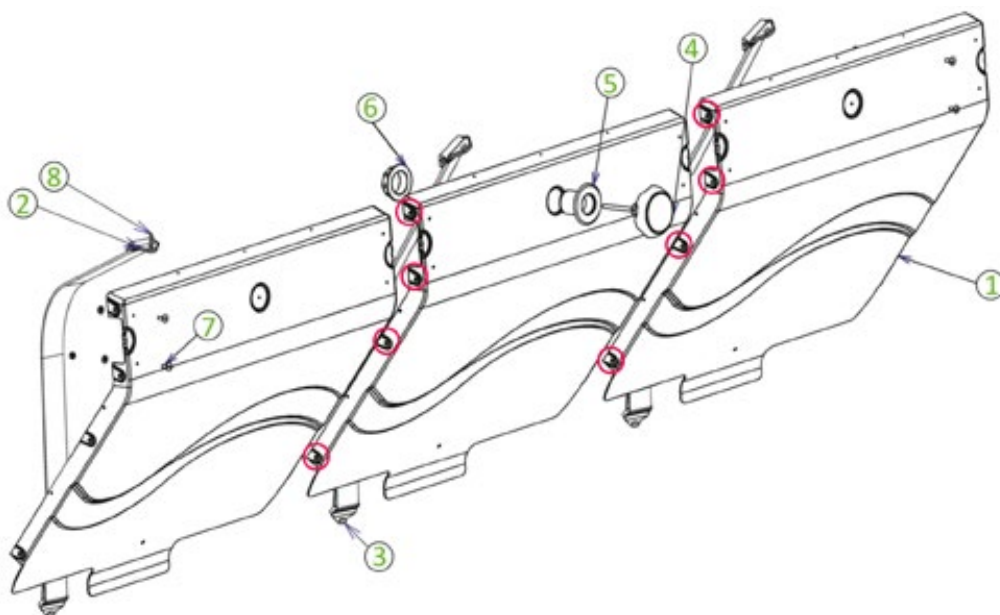

Figure 42 – Installing the pit wall and underwater light
The pit wall and underwater light assembly steps are illustrated in Figure 42. The screws required for assembly are enclosed in bag Y.
Assemble the three pit wall modules (1) using eight hex head 8 × 20 A4 SS screws, and eight 8 mm diameter nuts, place a 8 mm diameter washer on either side of the wall. The positions of these screws are circled in red in Figure 42.